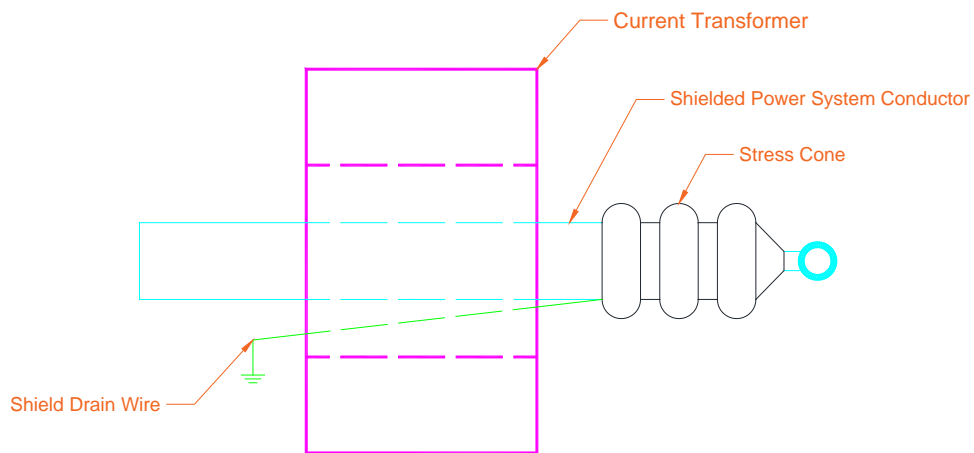

Figure 2
- If a shielded power system conductor passes through the window of 600 Volt class current transformer before being terminated on the power input terminal; the current transformer must be located on the shielded portion of the power system conductor. Failure to do this may result in loss of life, personal injury and property damage. The shield drain conductor of the power system conductor that passes through the window, must pass back through the window of the current transformer before being connected to the stainless-steel ground pad. See Figure 2.